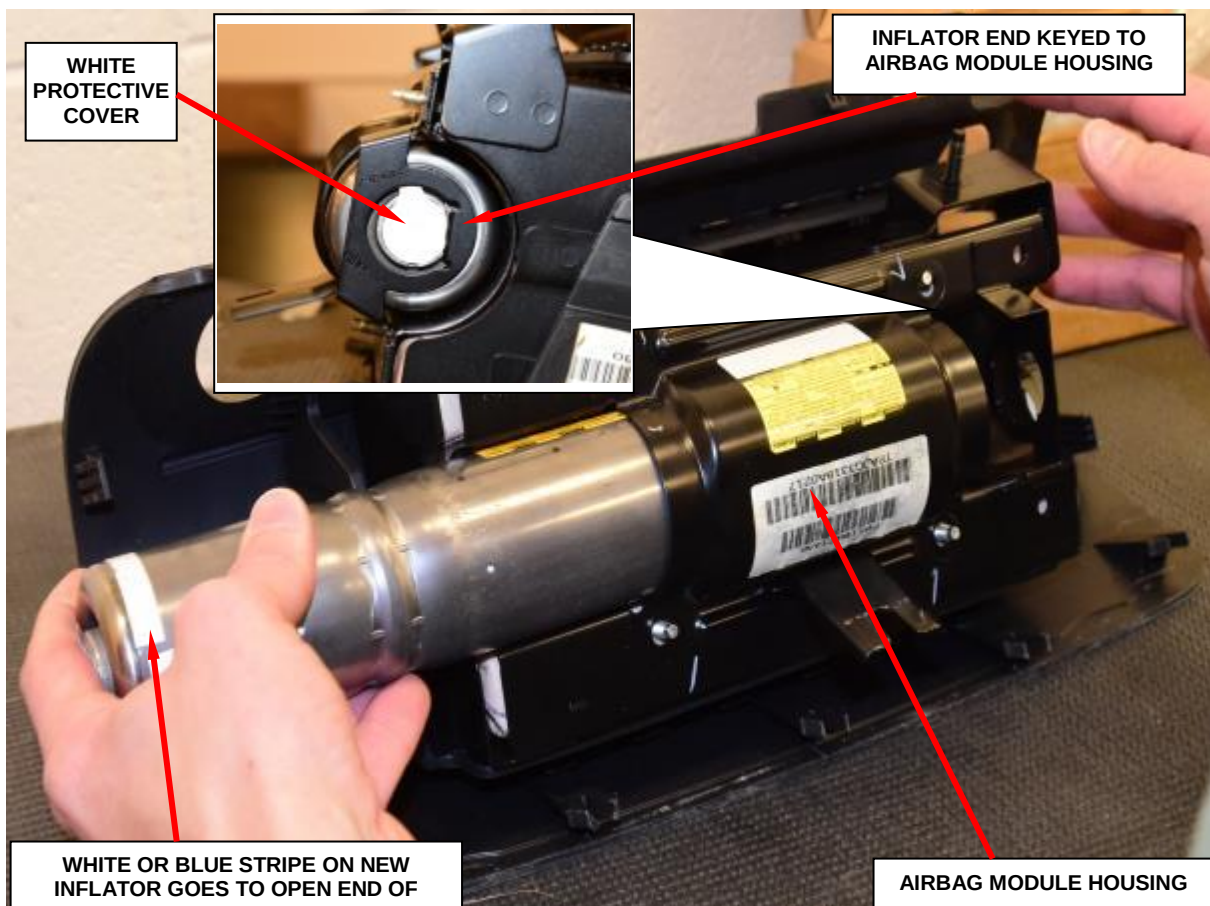

Figure 176 – Inflator Installation
- f. Remove airbag cushion from housing by applying pressure to the bolts, set cushion aside (Figure 176).